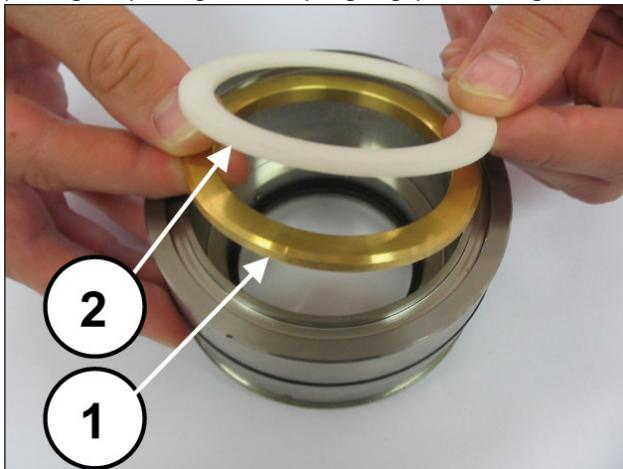

Fig. 195
Assemble the support ring and the anti-extrusion ring (pos. ①②, Fig. 195), the three packings making sure the notches are at 120° from each other (pos. ①, Fig. 196), the packing scraper ring and the spring ring (pos. ①②, Fig. 197).